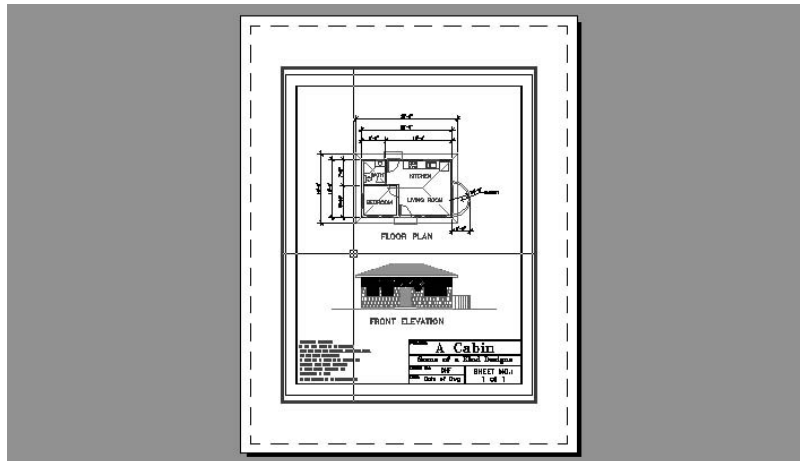

FIGURE 13.4: The crosshair cursor in Model Space with the layout
2. Toward the right end of the status bar, click Paper. The Paper button changes to become the Model button. Continue moving the cursor around the drawing area. The cursor becomes a crosshair only when it is placed inside the viewport surrounding the cabin drawing (see Figure 13.4). Otherwise the cursor changes to a pointer arrow, as it does when it is placed on the toolbars and menus. When the cursor is within the viewport, the lines of the crosshair extend only to the edge of the viewport. This is the boundary of where you can pick points to draw when working on the cabin.